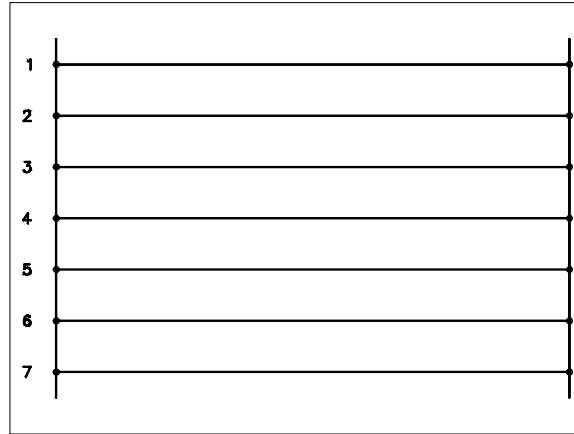

Figure 6-39 Ladder with 7 rungs
5. Choose the **OK** button; you are prompted to specify the start position of the first rung. Enter **11,18** at the Command prompt and press ENTER; the ladder is inserted into the drawing, as shown in Figure 6-39.